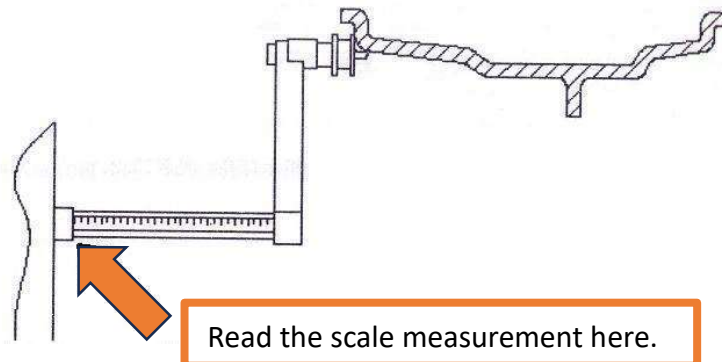

Figure 3.2 Manually obtain tire distance parameters
- Pull out the offset arm so that it touches the inner lip of the rim (See Figure 3.2).
- Read the length value. As marked by the arrow in Figure 3.2, the distance unit is mm.